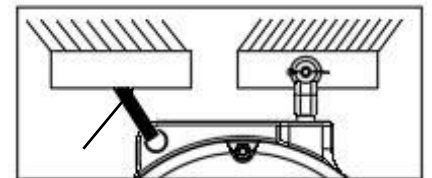

Fig. 02
- Other end of safety chain or safety cable is to be attached to a supporting component separate from the one already supporting the retractor itself. [See - Fig. 02]